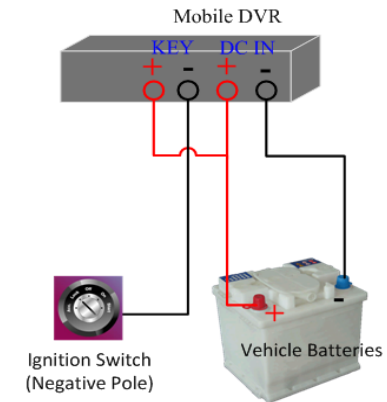

Fig 2.7 KEY connect with negative ignition switch
(2) Connection of Negative Pole Switch (Fig 2.7):